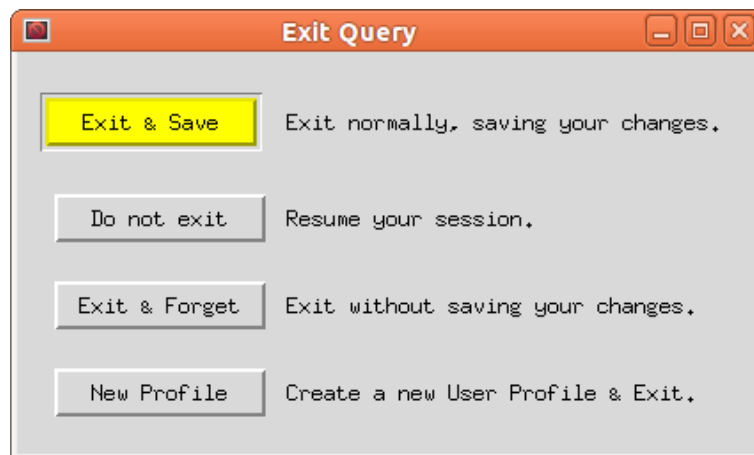

Figure 6.6: Here you decide how to save the settings from this session.
LCMgui usually has an “Exit LCMgui” or an “Abort LCMgui” button. When you click this, you are usually given the choice of four buttons (Fig 6.6):
- When you exit from this first 3T session, click “New Profile” in Fig 6.6, enter “3T” in Fig 7.11, and then click “Save”.
- When you exit from LCMgui sessions after the first 3T session, you can exit normally by simply clicking “Exit & Save” in Fig 6.6.
be sure to exit normally from LCMgui, with the “Exit & Save” button in Fig 6.6, so that your license information is saved.